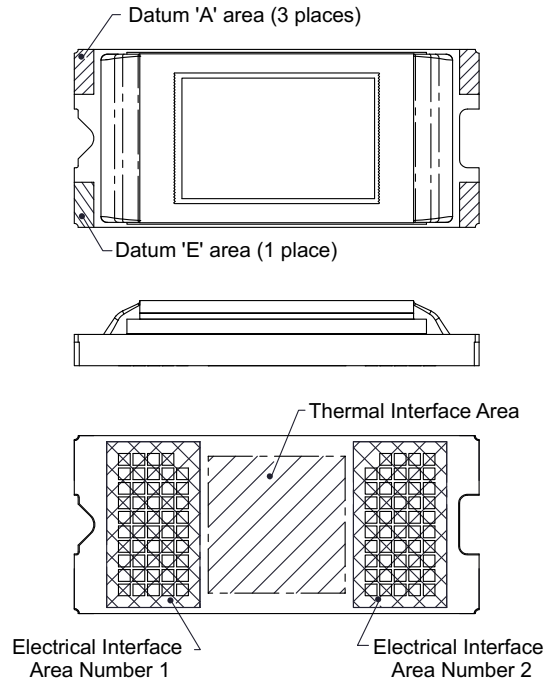

Figure 3. System Interface Loads for FQD
- (1) See Section 2.1 and Figure 3 for diagrams.
- (2) See Mounting Concepts DLP4500FQD.